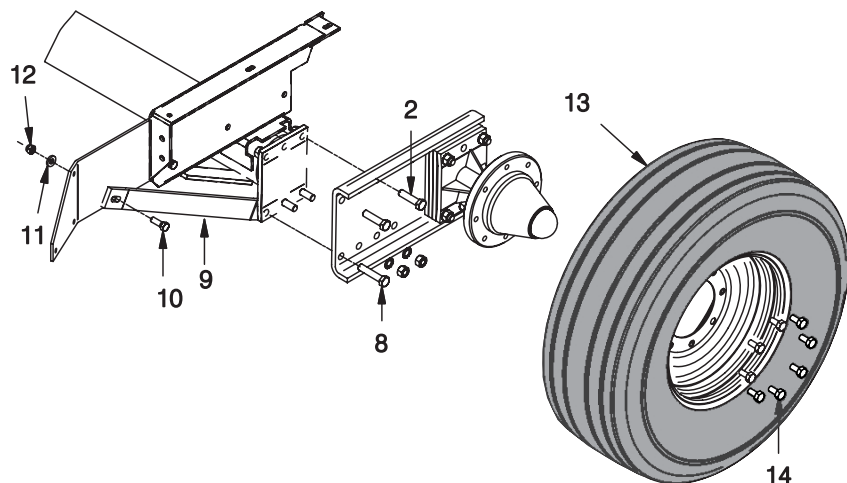

Figure 3 - Mounting Channel & Tire
C. Place the Mounting Channel on the axle as shown in Figure 3. Place F000007705 RH Brace as shown in Figure 3. Tighten all nuts and bolts. Mount the tire with the valve stem pointing to the inside of the baler. Torque all nuts and bolts as per torque chart on page 1.